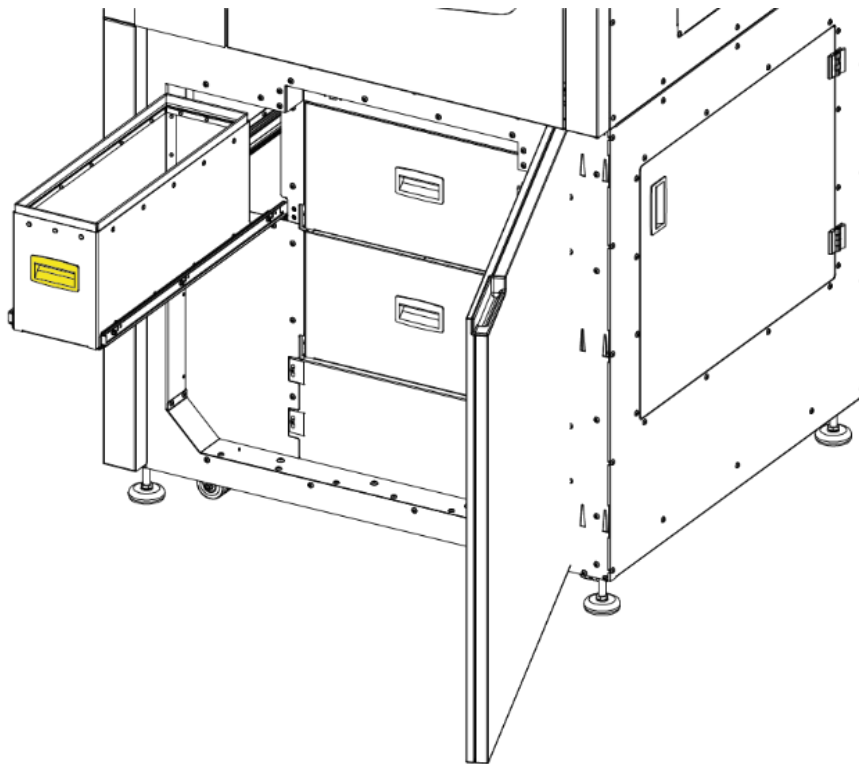

Fig. 76 Removing the cleaning station waste container – step 1
3. Pull the waste container out by holding the handle (Fig. 76, yellow).